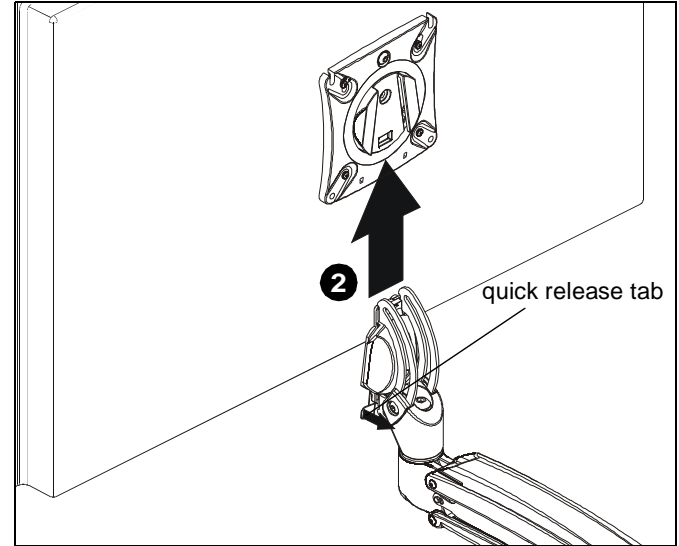

Figure 18
WARNING: Only remove display from mount when the display can be lifted up from the mount! DO NOT remove display unless the display is in the upright position! (See Figure 18)
2. Remove quick release faceplate from mount by pulling quick release lever and sliding faceplate off mount. (See Figure 18)